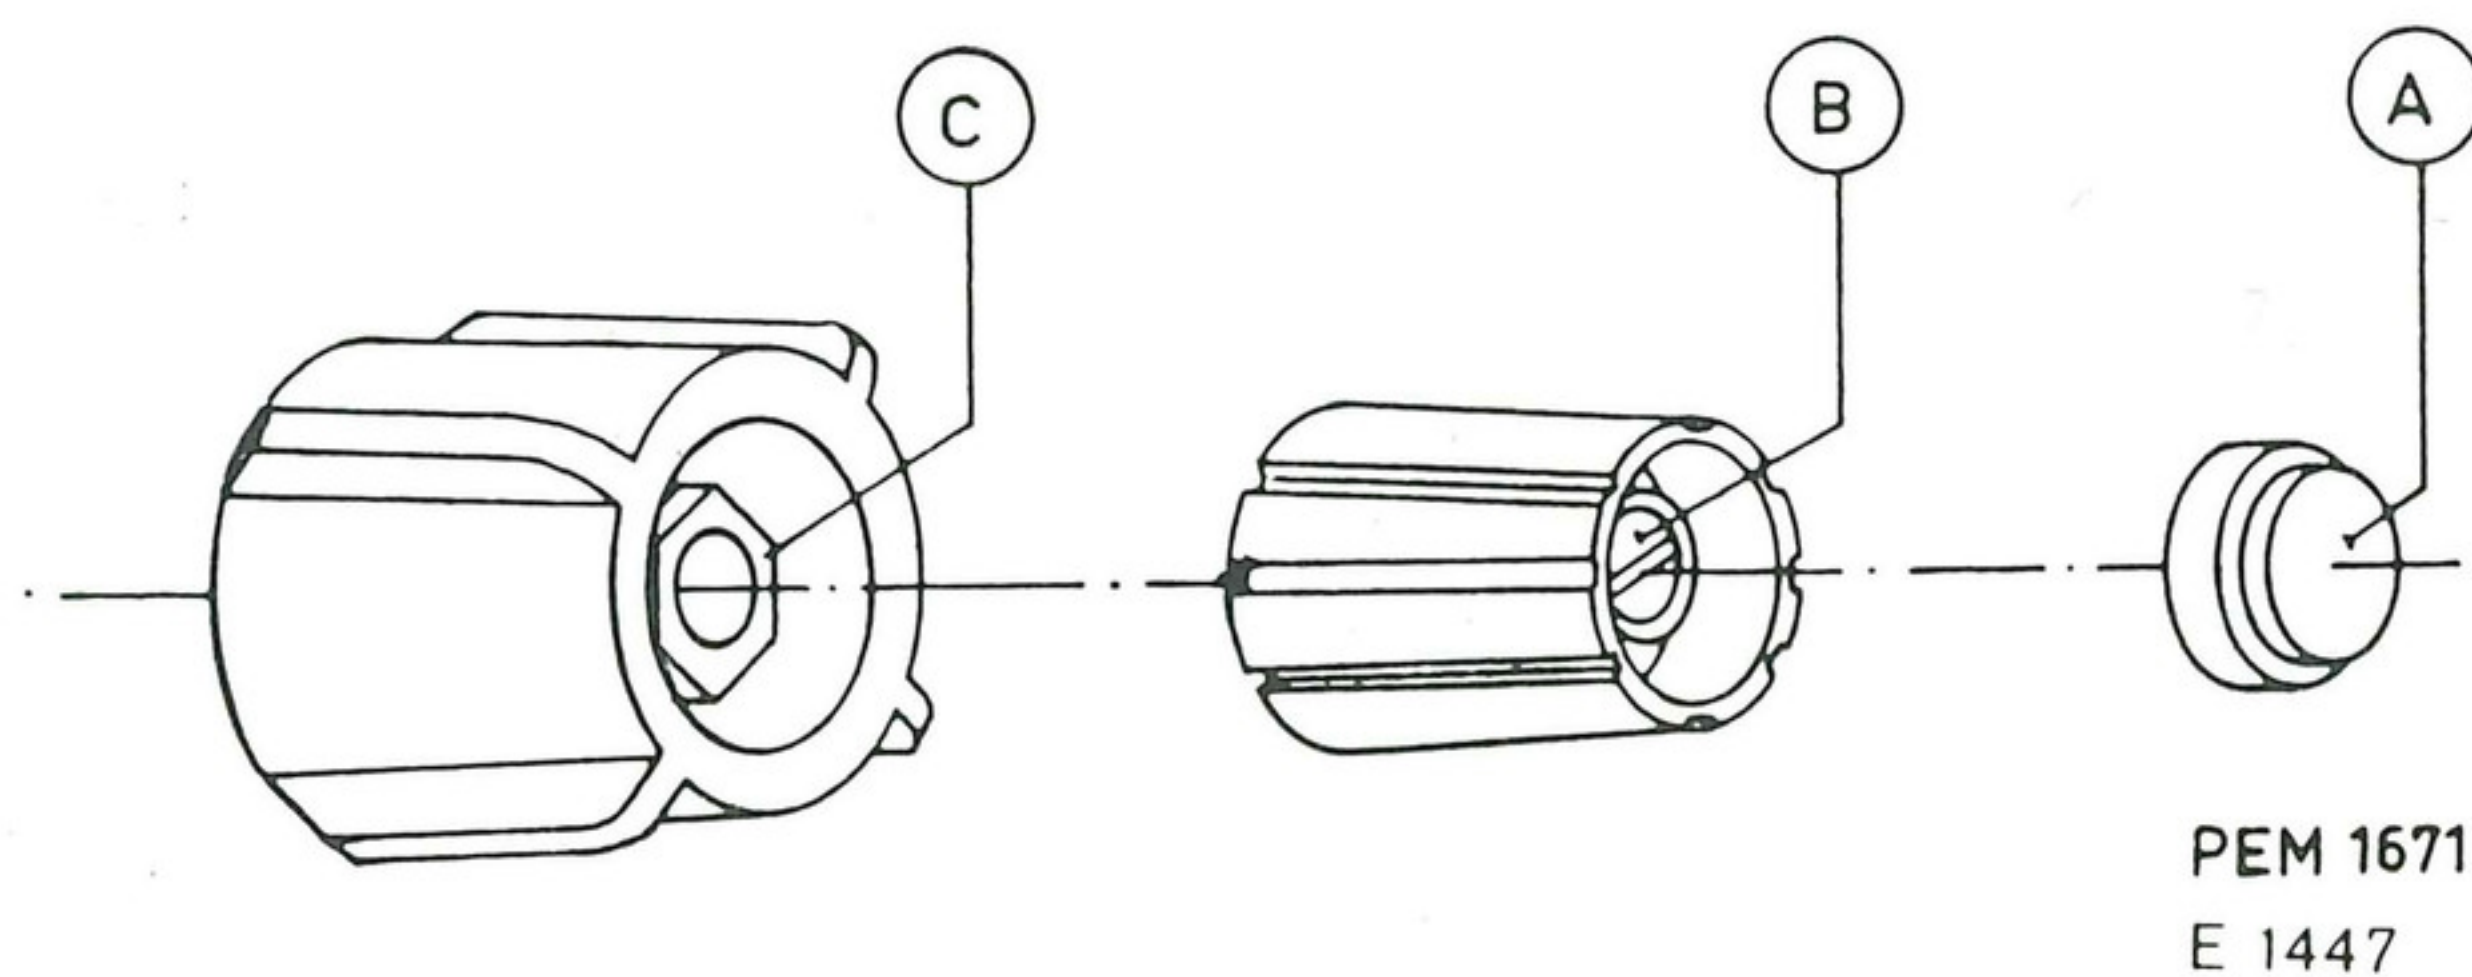

Fig. 9. Removing knobs
B. REMOVING THE KNOBS (see Fig. 9)